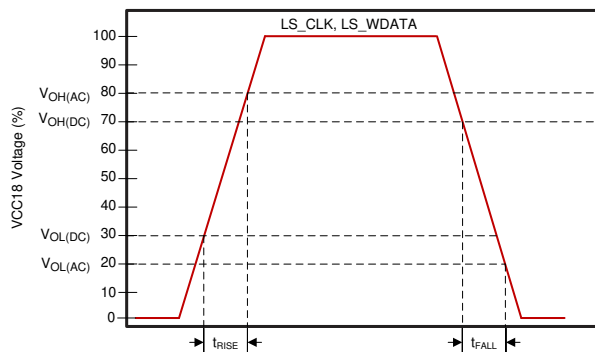
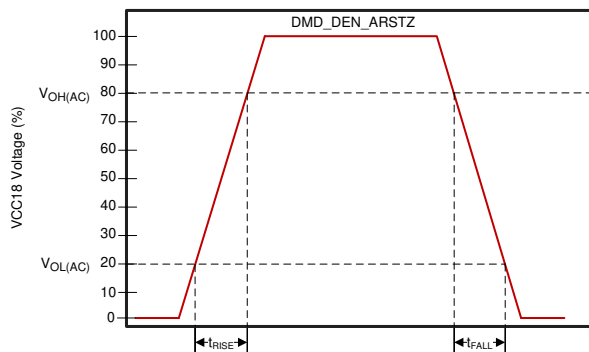

图 6-3. LS_CLK and LS_WDATA Slew Rate
图 6-4. DMD_DEN_ARSTZ Slew Rate
- (1) $V_{OH(AC)}$ maximum applies to overshoot. When the DMD_LS_WDATA and DMD_LS_CLK lines include a proper 43- Ω series termination resistor, the DMD operates within the LPSDR input AC specifications.
- (2) $V_{OL(AC)}$ minimum applies to undershoot. When the DMD_LS_WDATA and DMD_LS_CLK lines include a proper 43- Ω series termination resistor, the DMD operates within the LPSDR input AC specifications.
- (3) See Figure 6-3 for DMD_LS_CLK, and DMD_LS_WDATA rise and fall times. See Figure 6-4 for DMD_DEN_ARSTZ rise and fall times.